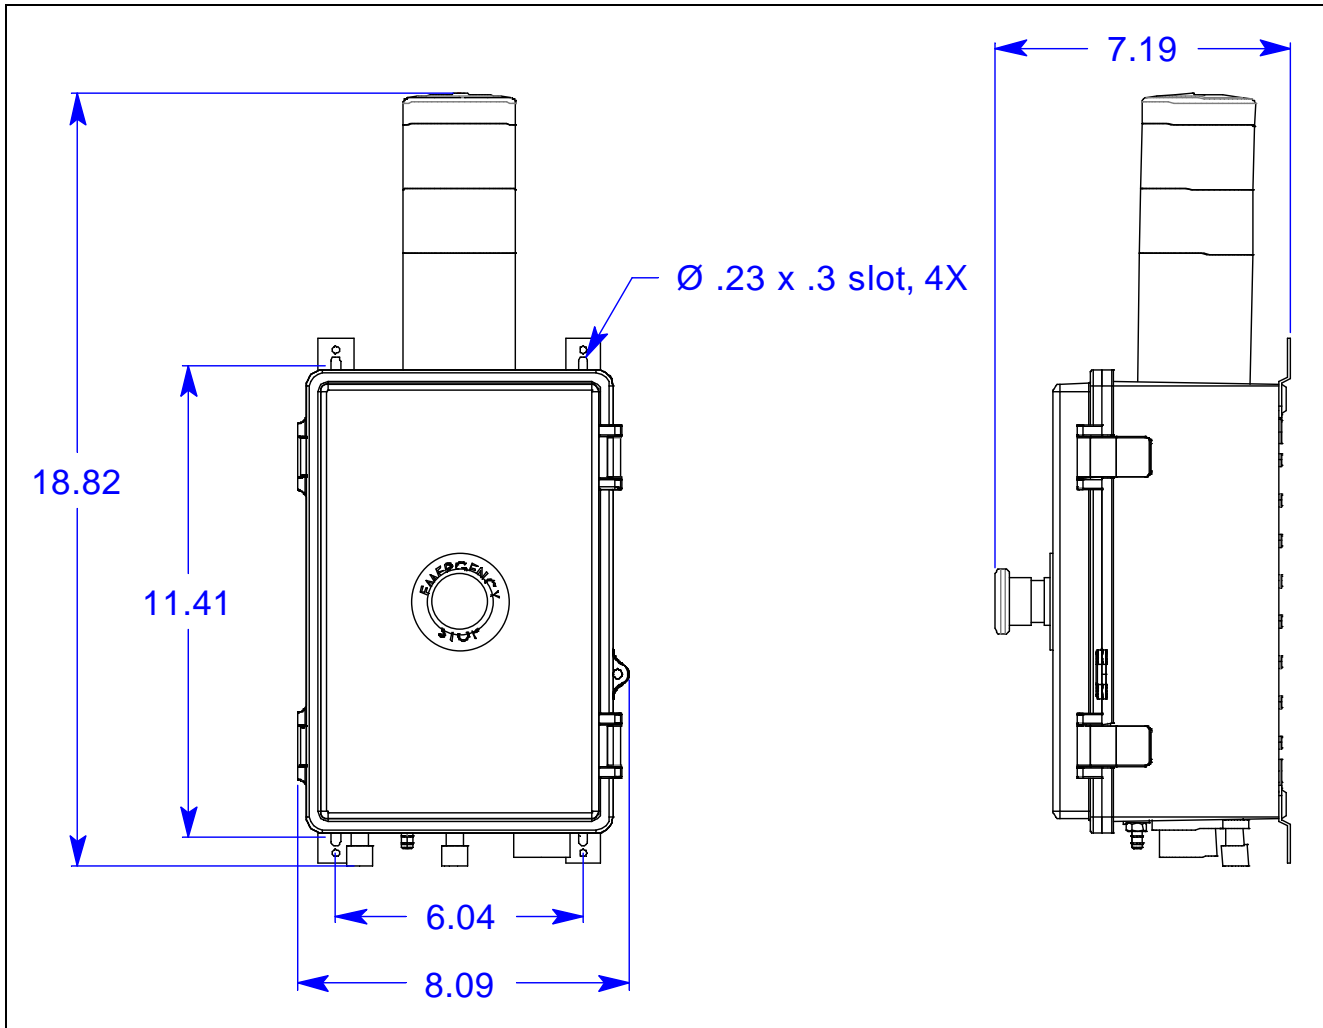

Figure 3: Outline & Mounting Dimensions
2. The 82-5222 is shipped with the mounting feet positioned under the housing. Loosen the screws that secure the feet to the housing, rotate the feet to their mounting position as shown in Figure 3, then tighten the screws.